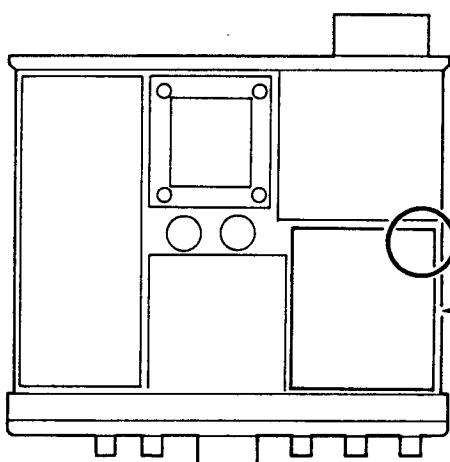

Figure 1
1. On the component side of the RF Unit, install a $1\ \mu F$, 50WV electrolytic capacitor, as shown in Figures 1 and 2. The positive lead of the capacitor is soldered to the lead of R1045, and the negative lead to the TEST PIN (G1).